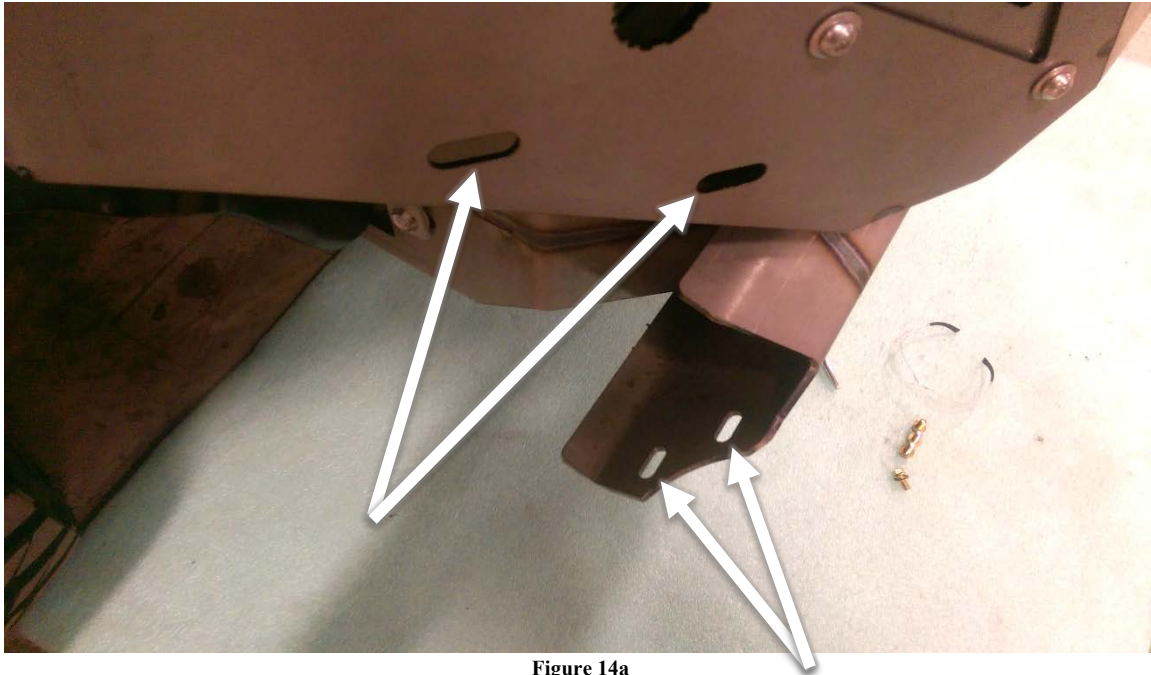

Figure 14a
- D. Install Wings using the eight provided 3/8" x 1" bolts (Figure 14a-b). Each wing will attach to the center section with two bolts and to the winch tray with two bolts.